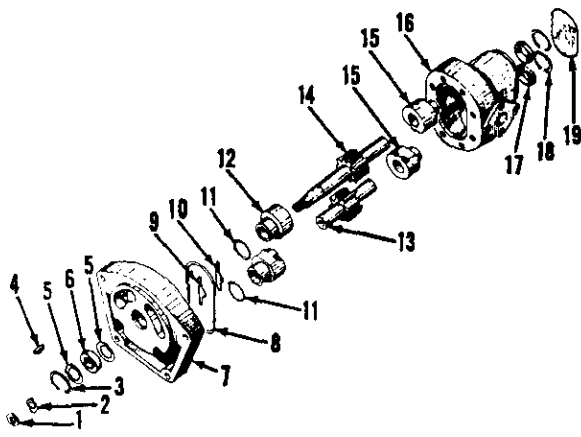

Fig. 133—Exploded view of the Series B-275 engine driven hydraulic pump. Some pumps do not include items (17) and (18).
To disassemble the removed pump, straighten tab washer (2—Fig. 133), remove nut (1) and using a suitable puller, or a soft faced hammer, remove gear from shaft (14). Remove the eight cap screws and lift cover assembly (7) from pump body (16). At this time, note the location of pressure relief plate (10). Prior to removing same, remove "O" ring (8). Remove snap ring (3), oil seal washer (5) and oil seal (6).
be completed on pumps as shown in Fig. 133 by removing name plate (19), snap rings (18), sealing plugs (17) and bumping out bearings (15). On those pumps which do not include items (17) and (18), bearings can be removed using a hooked tool.